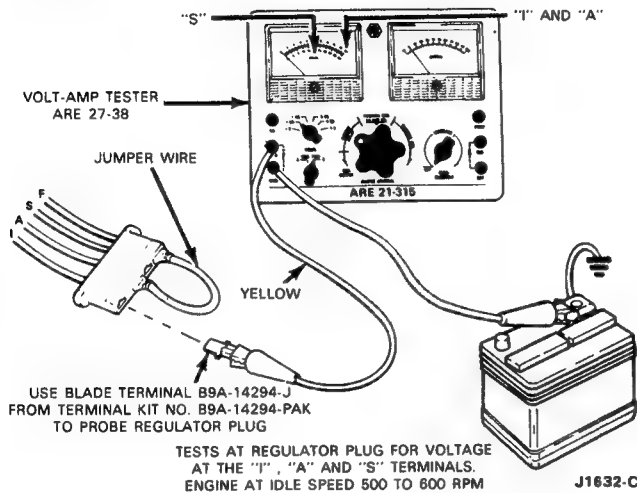

FIG. 10 Regulator Plug Voltage Tests
6. If the voltmeter reading does not increase one volt above battery voltage, proceed to the next step before performing other tests, the field circuit (regulator plug to alternator) must be checked for a grounding condition. If the field circuit is grounded and the jumper wire is used as a check at the regulator wiring plug from the A to F terminals (Figure 10), excessive current will cause heat damage to the regulator wiring plug terminals and may burn the jumper wire (Fig. 10). Also, if the field circuit was grounded, the connector wire inside the regulator will be burned open and an under voltage condition will result.
1. If the field circuit is satisfactory, disconnect the regulator wiring plug at the regulator and connect the jumper wire from the A to the F terminals on the regulator wiring plug (Fig. 10).
1. Connect the positive lead of the voltmeter to the S terminal of the regulator wiring plug (Fig. 10). Then, turn the ignition switch to the ON position. Do not start the engine.
2. With the engine idling, connect the positive lead of the voltmeter to the S terminal and then to the I terminal of the regulator wiring plug (Fig. 10). The voltage of the S circuit should read approximately 1/2 of the I circuit.